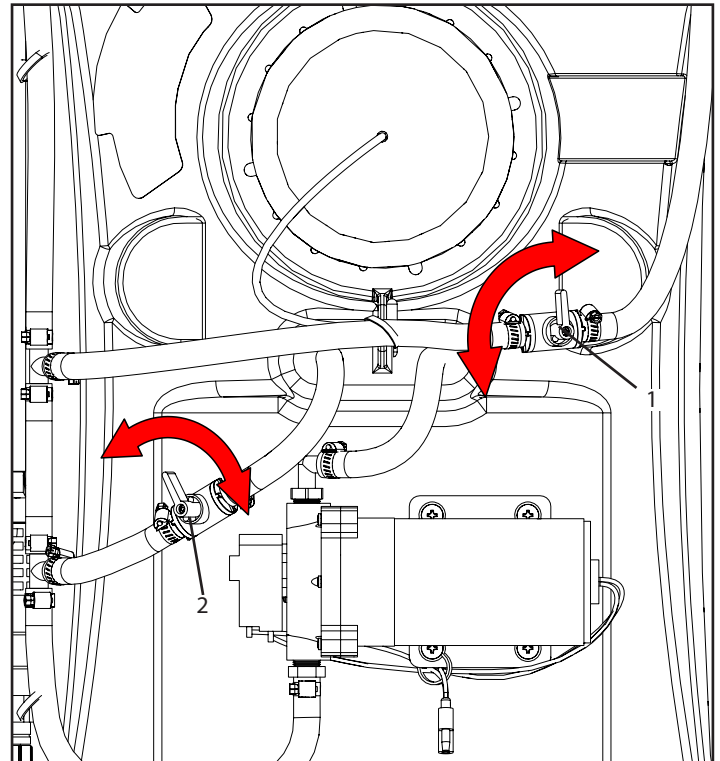
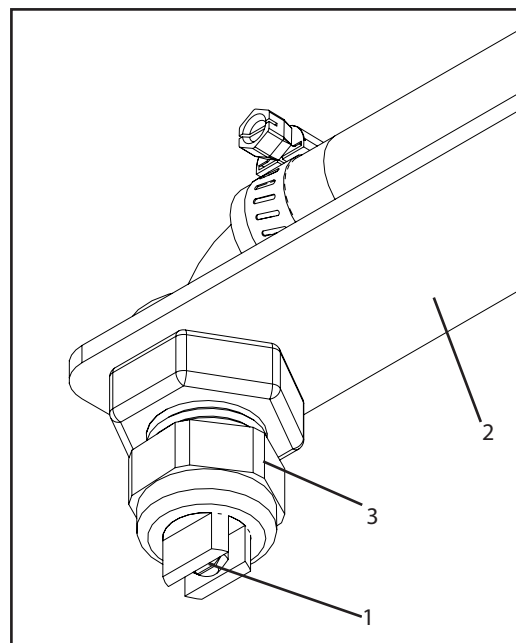

Figure 1: Boom Control Valve and Recirculation Valve
Figure 2: Boom Spray Tip
3. Prepare the sprayer for spraying by opening the Boom Control ball valve (1) (Figure 1) in the boom supply line. It is recommended that the valve is operated in full open position. NOTE: The open position for ball valves are in line with the hose, and the closed position is perpendicular to the hose.
4. The sprayer is equipped with a Recirculation ball valve (2) (Figure 1) to aid in material agitation and pressure control. The closed position for this valve is full pressure for the boom and spray wand. NOTE: This valve should be closed when spraying with the boom.
5. Start the utility vehicle and engage the pump by turning on the power switch (2) (Figure 2, pg 5) on the wiring harness. Check the sprayer to be sure that there are no leaks in any of the hoses.
6. Test spray pattern with water on driveway or sidewalk. Each spray tip pattern should spread out to the right and left sides, rather than to the front and back of the boom. NOTE: If the spray patterns from the tips (1) (Figure 2) are hitting the sprayer, angle the tips until the spray pattern clears the sprayer. To adjust the spray tip angle, loosen spray tip cap nut (3). Align spray tip (1) and tighten cap nut (See Figure 2).
7. There should be some spray overlap between each tip and the spray patterns should be consistent. If the spray pattern is inconsistent, the tips (1) (Figure 2) may be worn out and need replaced, or there is a clog in the tip strainer (see the "Routine Maintenance" section).
8. Turn off the pump using the power switch (2) (Figure 1, pg 6) on the wiring harness.
10. After the tank is full, close the Boom Control Valve (1) (Figure 1), engage the pump by turning on the power switch (2) (Figure 1, pg 6) and allow the water to circulate to ensure proper mixing of the chemicals and water. The
12. Engage the pump by turning on the power switch (2) (Figure 2, pg 5), open the Boom Control valve (1) (Figure 1, pg 9).
14. When the sprayer tank is empty, or you have finished spraying, turn off the sprayer with the power switch (2) (Figure 2, pg 5).